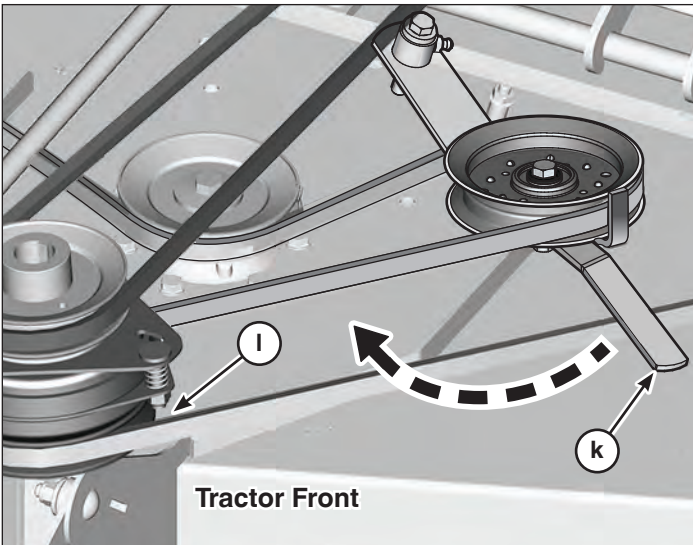

Figure 39
9. On left side of tractor, move idler arm (k, Figure 39) on mower to release belt tension. Reinstall belt to PTO pulley (l).